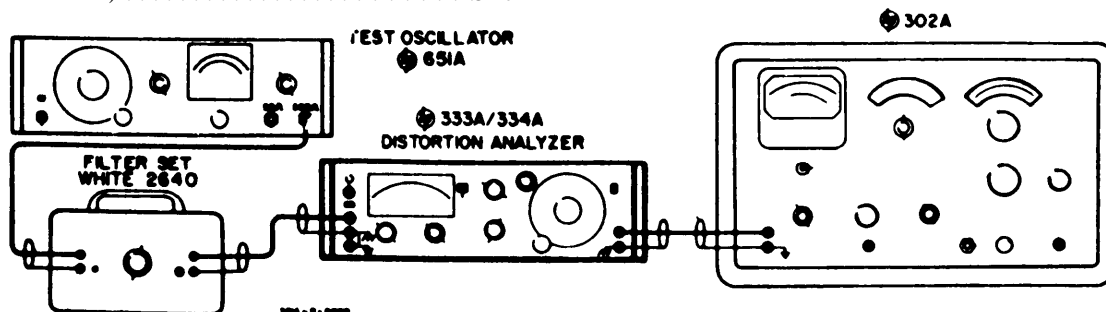

Figure 5-1. Test Setup for Fundamental Rejection Check
a. Connect 331A/332A as shown in Figure 5-1.